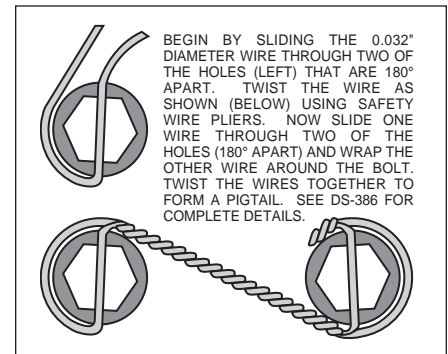

Figure 3. Safety Wire Diagram
• With the larger I.D. side of the rotor (7) facing away from the hat (8), bolt rotor (7) to hat (8) through the backside of the rotor using bolts (9), and washers (10). Using an alternating sequence, apply red *Loctite*® 271 to the threads and torque bolts to 155 in-lb. For an added measure of security, the bolts may be safety wired using standard 0.032 inch diameter stainless steel safety wire as shown in Figure 3. Please refer to Wilwood's data sheet DS-386 (available at www.wilwood.com/Pdf/DataSheets/ds386.pdf) for complete safety wire installation instructions.